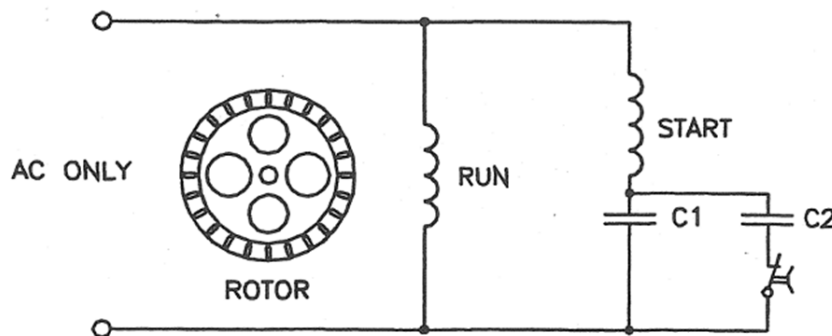

Figure 12 - Capacitor start capacitor run motor connections.
35. Capacitor start capacitor run motors are similar in operation to the capacitor start motor except that they have another capacitor permanently connected in series with the start winding, in addition to the starting capacitor as shown in Figure 12. Various centrifugal switch connection arrangements are possible.
36. The two capacitors in parallel during starting provides good starting torque, while the running capacitor provides good running torque, better overload capacity, better efficiency, better power factor and quieter operation. The capacity of the running capacitor is usually lower than that of the starting capacitor (usually less than 20 μF). The two capacitors must be connected in the circuit correctly as they are designed for different purposes. In Figure 12, the starting capacitor (C2) is a non-polarised Aluminum Electrolytic capacitor (usually greater than 70 μF) and is only designed to be energised for a short time. The Run capacitor (C1) is a polypropylene film capacitor and is designed for continuous duty. This type of motor is widely used for driving refrigerator compressors.